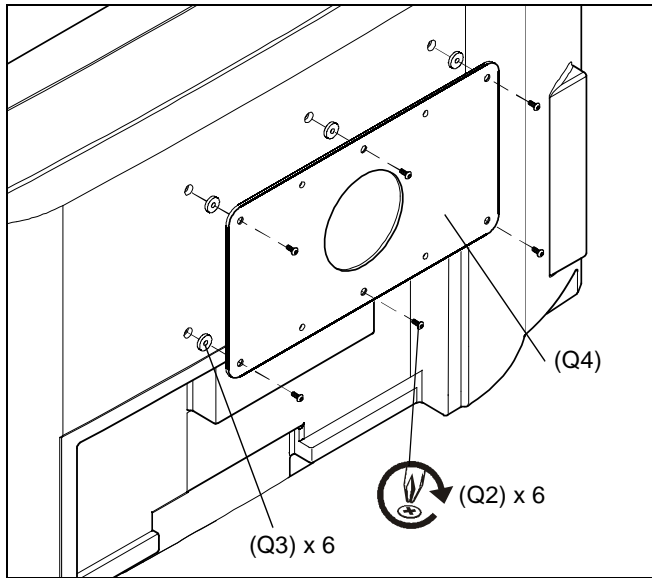

Figure 7
2. Attach Interface Bracket (Q4) to display using six M4x16mm Phillips flat machine screws (Q2) and six 1/8" spacers (Q3). (See Figure 7)